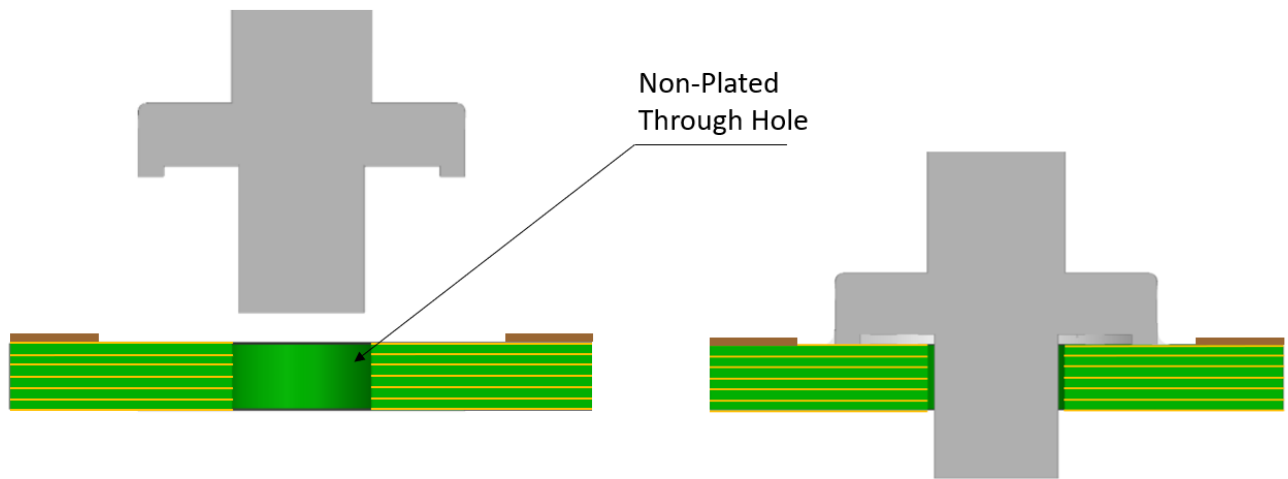

Figure 5.6.2
- b. If in case, covering the plated through hole is not possible, then it is recommended to use non plated through hole (NPTH). However, all the copper layers should be connected via thermal vias. Reference is shown in figure 5.6.2